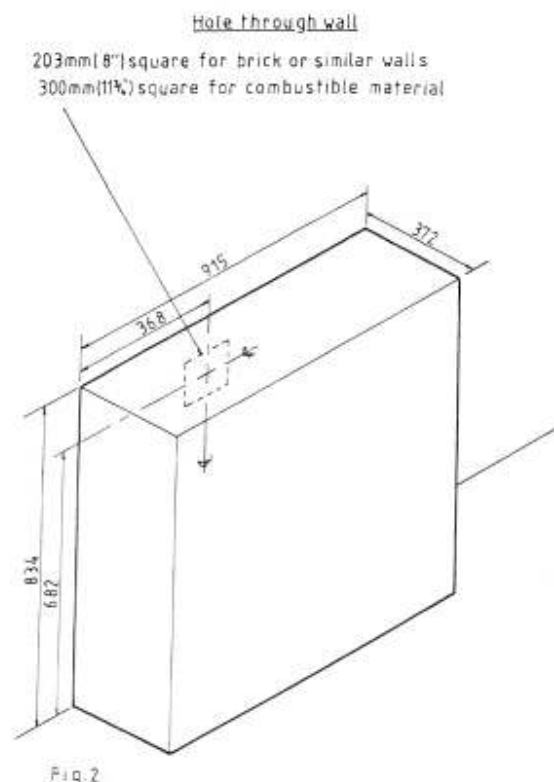

Fig.2
- 7.1 Using the dimensions shown in Fig. 2, mark the position for the hole through the wall.
- 7.4** Mark onto the wall around the ends of the wall securing bracket (see Fig. 2)